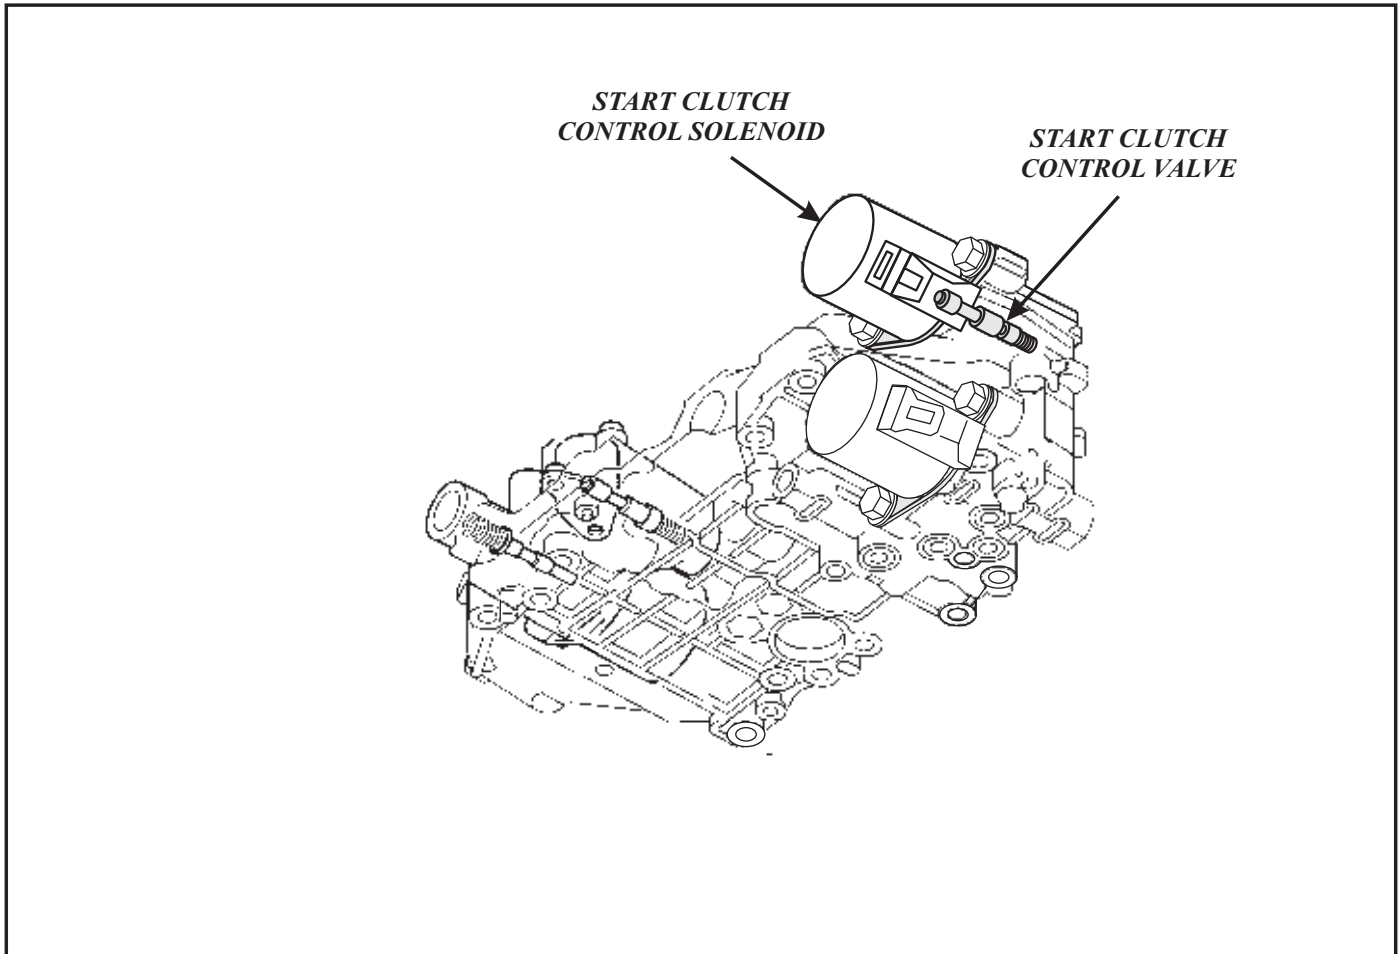

Figure 1
1. A mechanically failed Start Clutch Solenoid (Figure 1).
2. Sticking Start Clutch Control Valve (Figure 1).